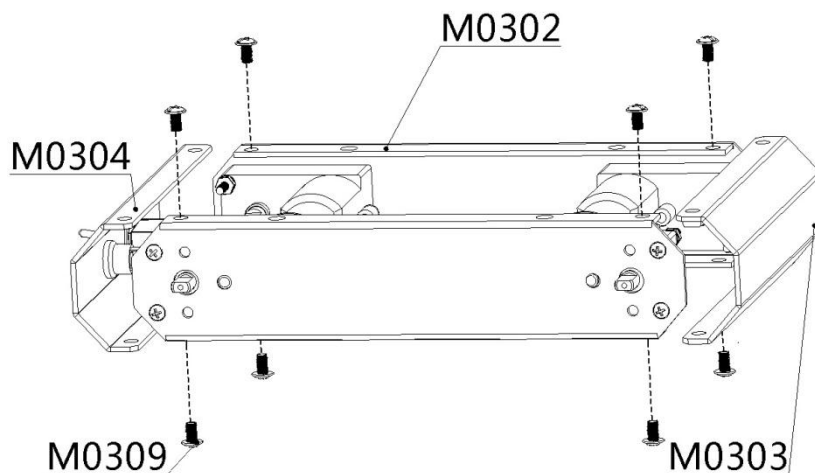

Figure 4-5
10. Figure 4-5; using the screw to fix the side truss to the fuselage's lower plate.